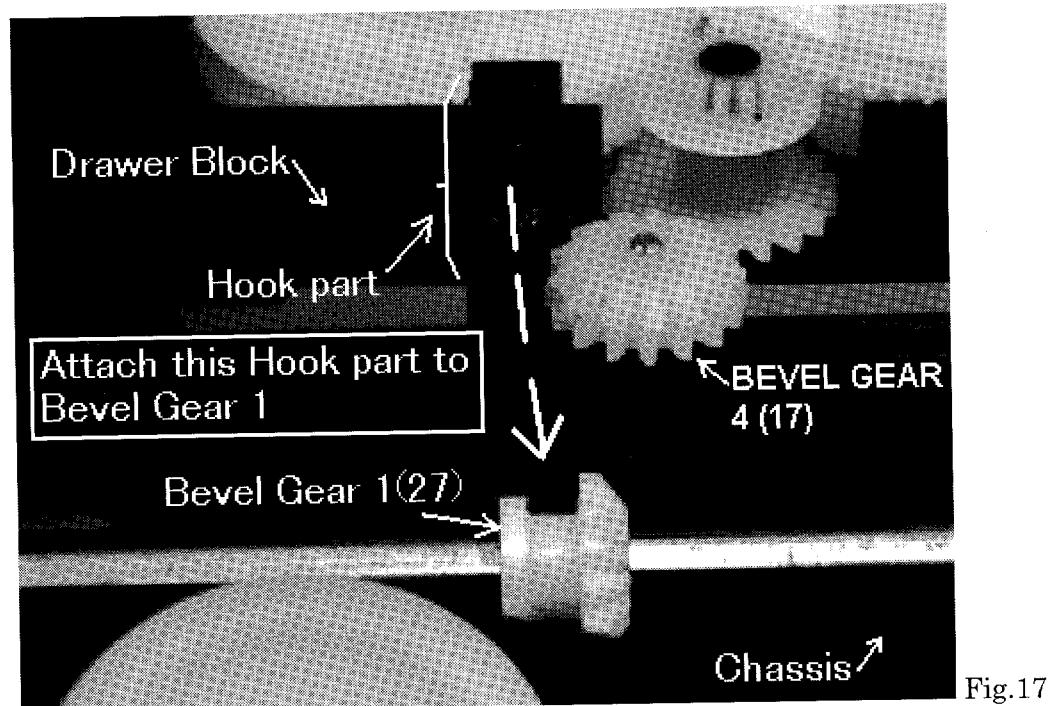

Fig.17
- 8) Move BEVEL GEAR 1(27) to the center of the SHAFT(24).
- 9) First attach the right side hook part of DRAWER block to CHASSIS block and BEVEL GEAR(27) (See Fig. 17). Then move DRAWER block inside as holding its left side up. Fit its left side project into the hole of CHASSIS end.